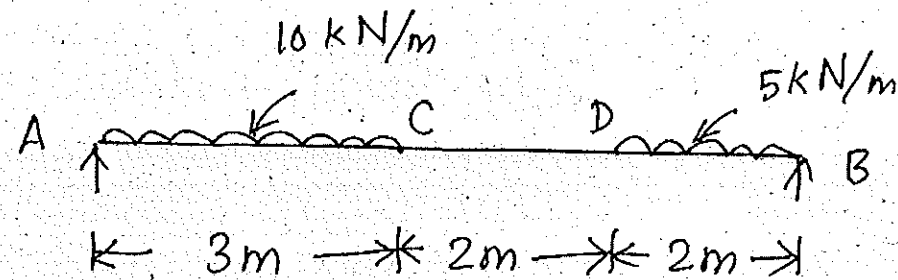

Fig. Q.12(b)
- (b) Draw SFD, BMD and find maximum bending moment of the beam given in Fig. Q.12(b).